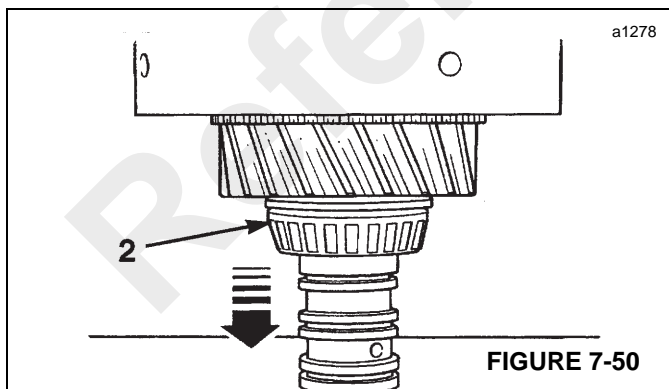

FIGURE 7-50
- Loosen the clutch end bearing by tapping the assembly on a piece of wood as shown in Figure 7-50. Remove the bearing using a suitable puller.